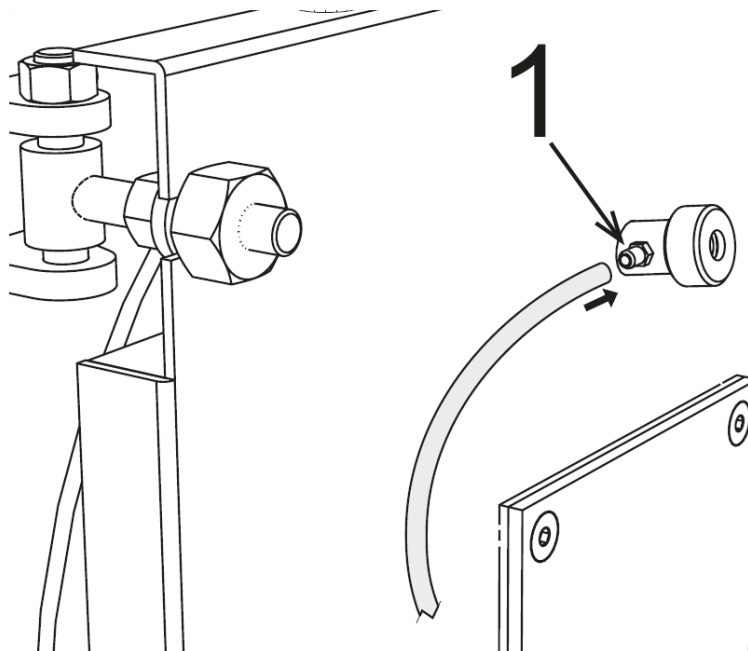

fig. 14
The flame control sight glass has a pressure outlet (ref. 1 - fig. 14) to be connected to the burner outlet via a tube in silicone (not supplied) or copper. This operation allows the air blown by the fan to cool the glass and prevent blackening. Failure to connect the tube to the sight glass can cause the glass to break.